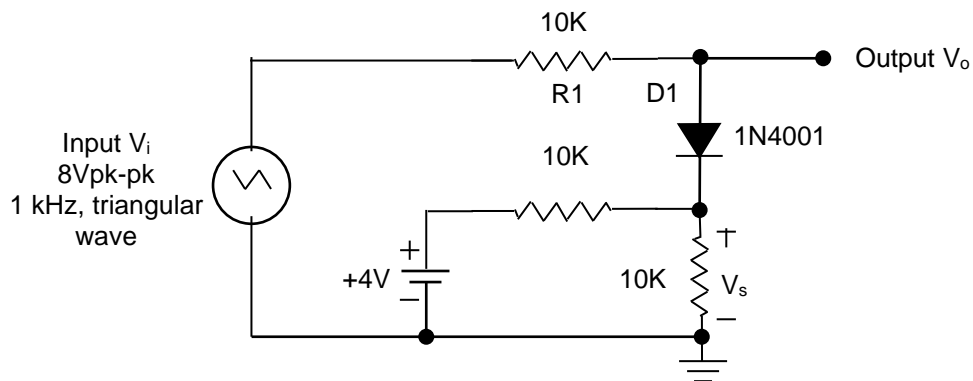

Figure 6 Diode clipper circuit with voltage divider
- Connect the circuit as shown in Figure 6.